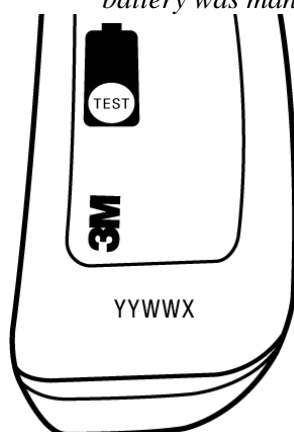

Figure 3 – Location of lot code.
Shelf life: The battery packs have a one (1) year suggested shelf life from the date of manufacture when stored in original packaging and recommended storage conditions. The LOT code is embossed on each battery pack, and can be used to determine the date of manufacture. See Figure 3 for locating the LOT code. The LOT code is formatted as (YYWWX); YY = year of manufacture; WW = week of year.